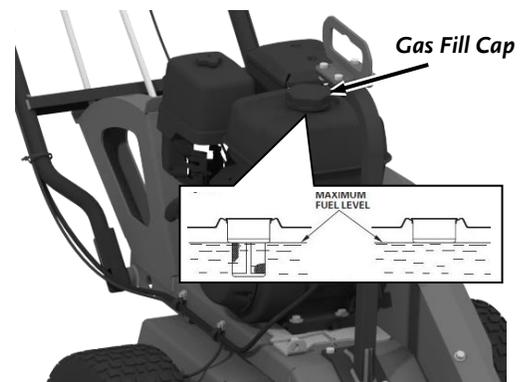

Figure 4
- With the engine OFF, remove the Gas Fill Cap and fill the Gas Tank with fresh, unleaded gas (with a minimum of 86 Octane) to the maximum fuel level limit of the Fuel Tank (**Figure 4**). Be careful not to overfill. Reinstall the Gas Fill Cap before starting the engine. See your Engine Owner's Manual for more detailed information.